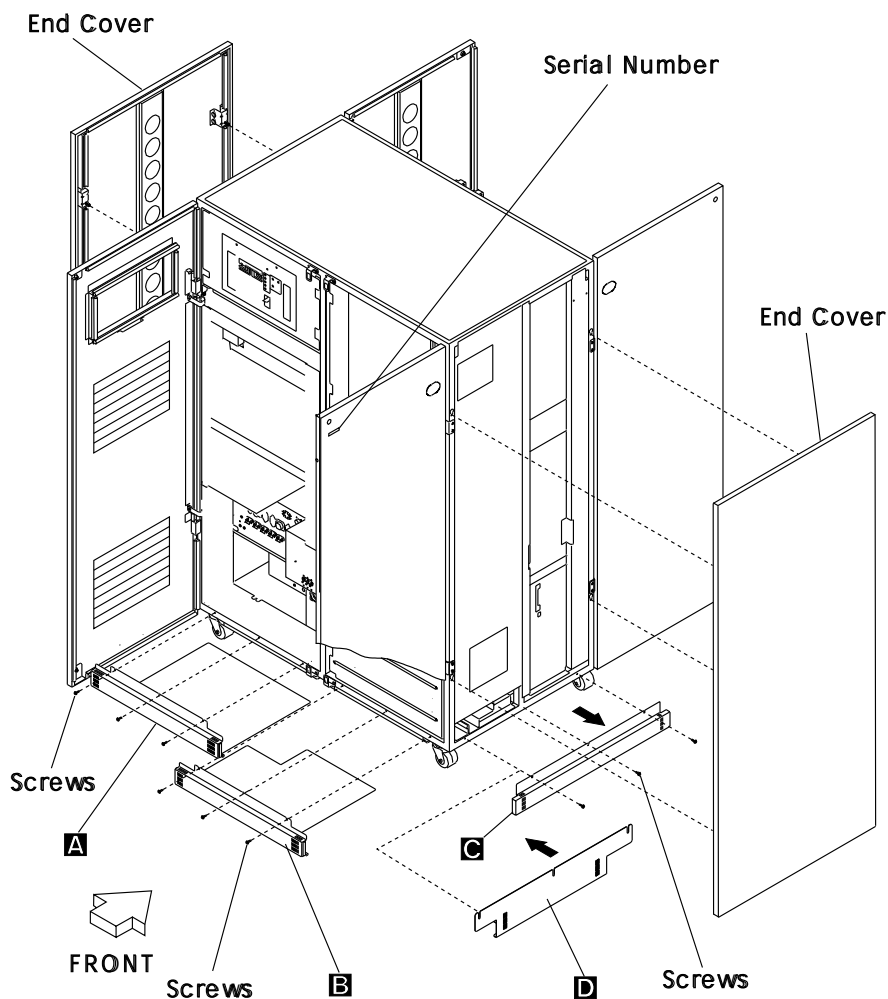

Figure 4-2. Ground Brackets on a 3745 Base Frame
- Step a. ____ From the front right side of the 3745, remove the right end cover and the bottom right bracket **C** PN 65X8885 if installed (see Figure 4-2). Place the bracket and cover in a safe out-of-the-way area.